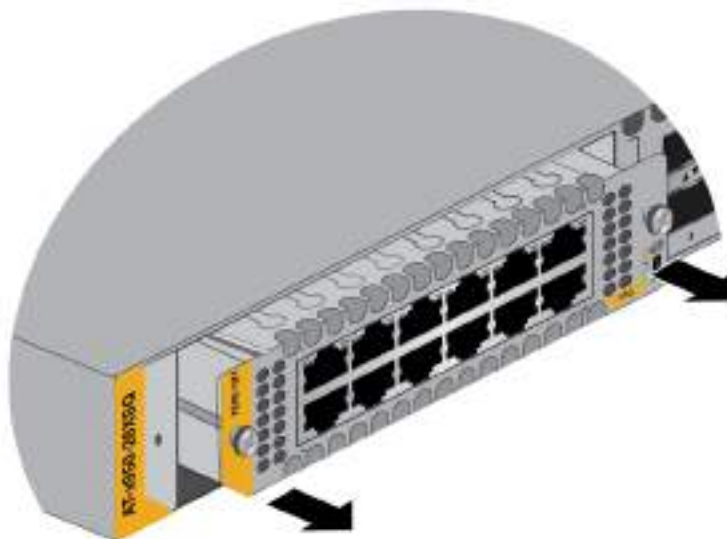

Figure 123. Disconnecting an Ethernet Line Card from the Switch
5. Carefully pull on the screws on the faceplate to disconnect the line card from the internal connector in the switch. Refer to Figure 123 on page 184.